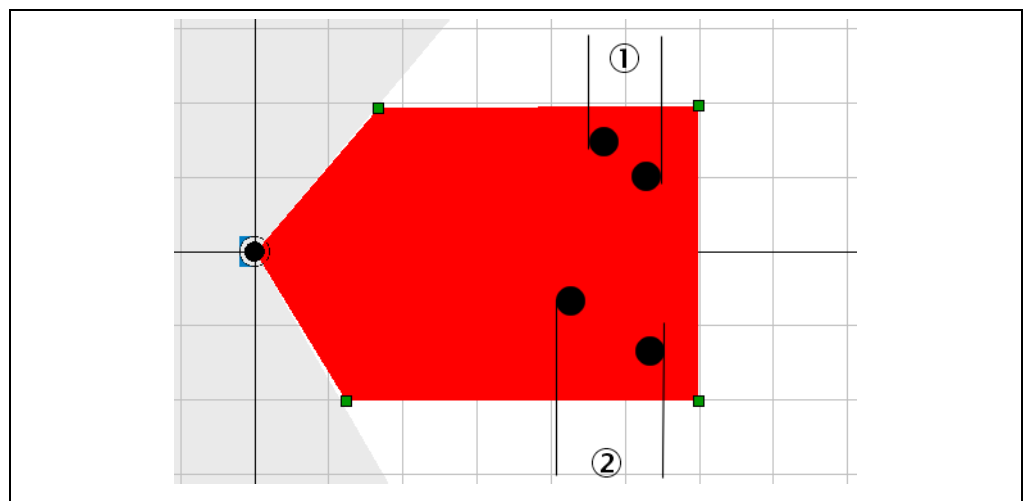

Fig. 23: Distance-dependent evaluation of two objects
In Fig. 23 the objects in example (1) are so close together (distance  $\leq$  value in the OBJECT SEPARATION field) that they are considered as one object. As a result the objects are not blanked and the evaluation field is considered infringed.